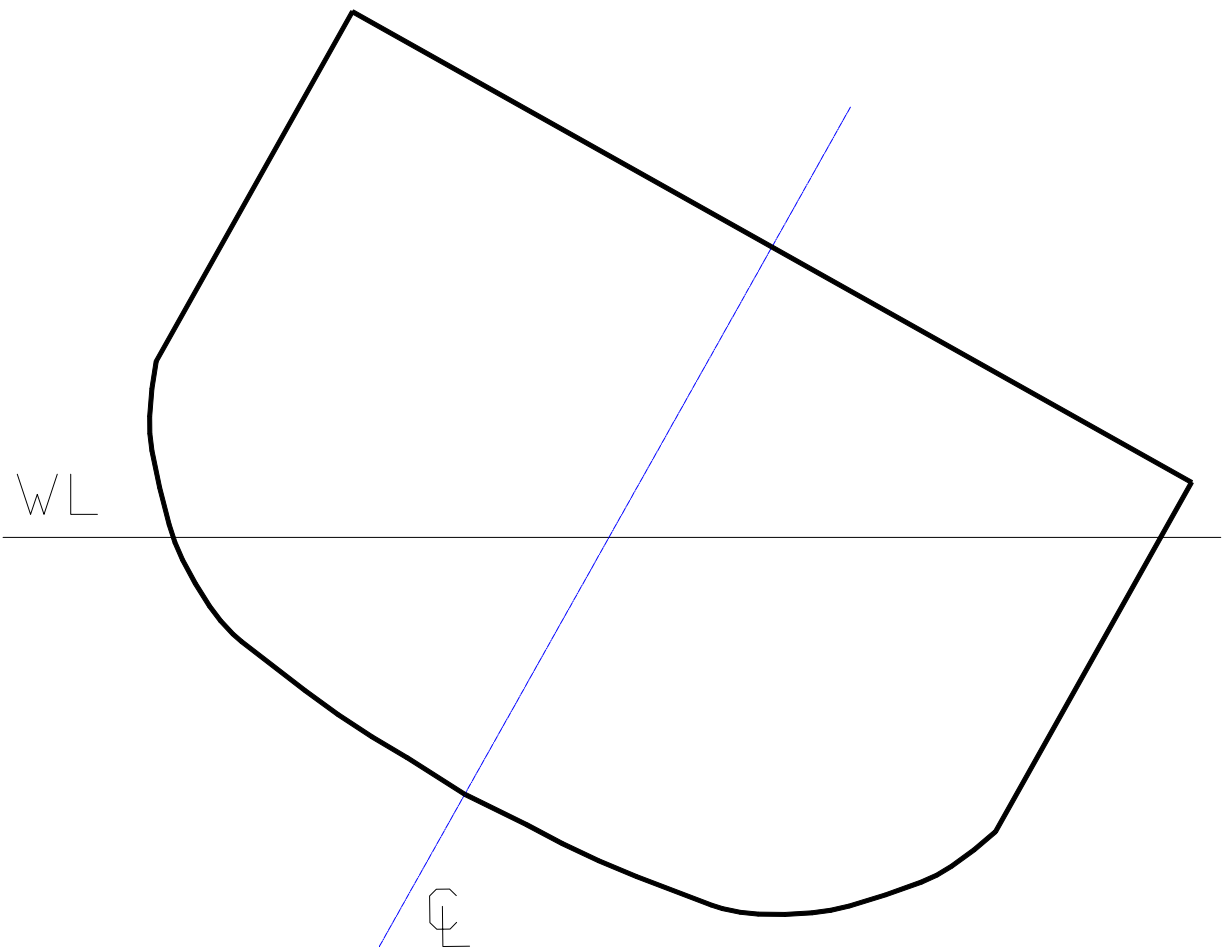

Figure 6 - The Heeling Ship with a Vertical Shift in G
Show that you understand the derivation of this equation by completing the diagram of the heeling ship at Figure 6. The diagram should include the center of buoyancy (B), the new and old centers of gravity (G_0 & G_1), the new and old righting arms (G_0Z_0 & G_1Z_1), the angle of heel (ϕ), the displacement (Δ_S) and the buoyant force (F_B).